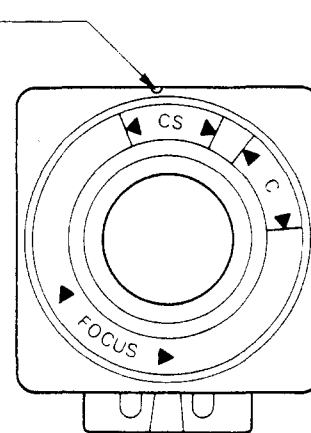

Figure 4
- b. CS-mount lens as shown in Figure 4.